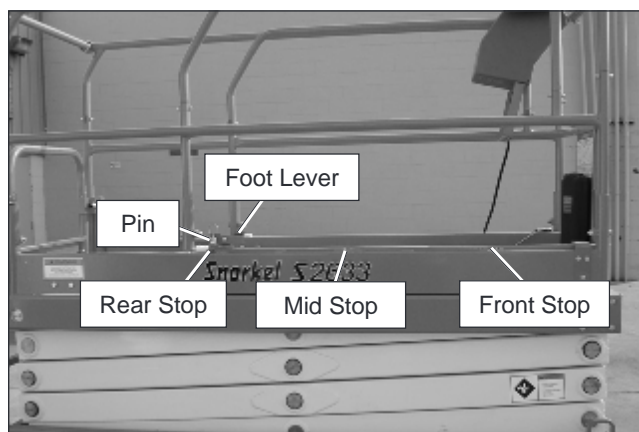

Figure 9.4 – Platform Extension
2. While facing the front of the platform, step down on the foot lever and push the top rail of the extension deck forward to extend the deck until the pin engages the mid or front stop (refer to Figure 9.4).
2. While facing the front of the platform, step down on the foot lever and pull the top rail of the extension deck backward until the pin engages the mid or rear stop (refer to Figure 9.4).